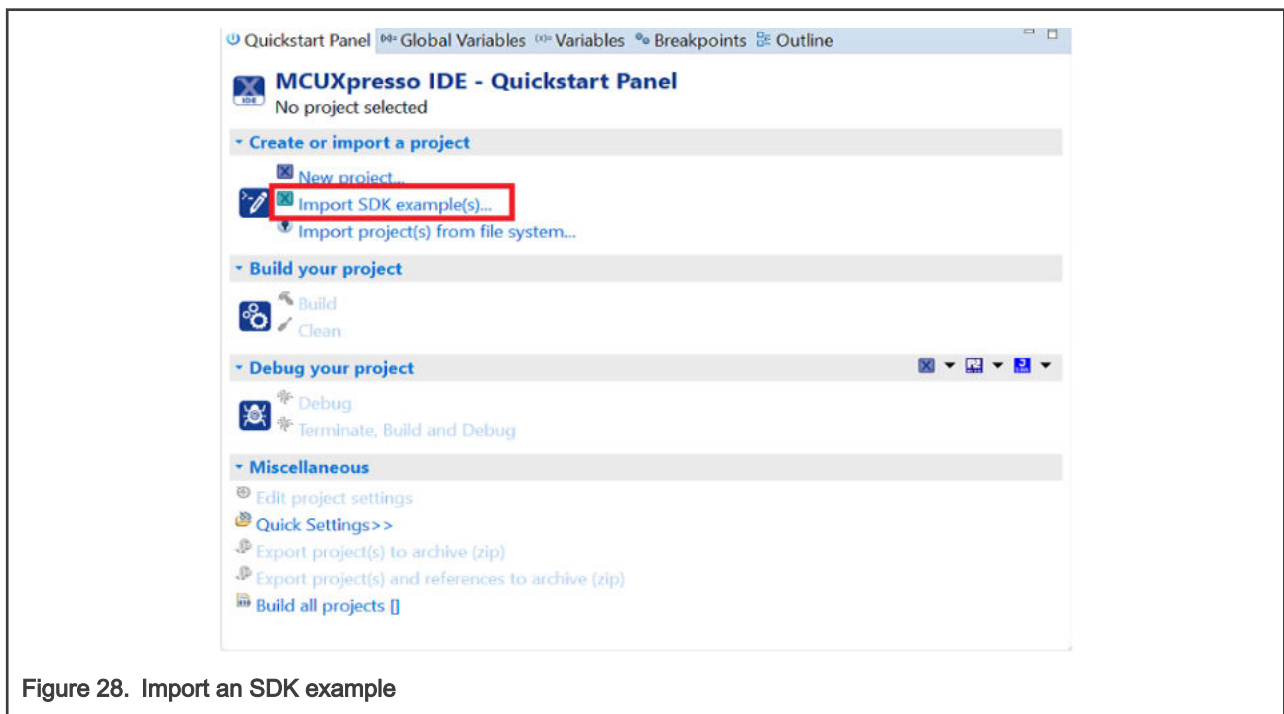

Figure 28. Import an SDK example
2. On the **Quickstart Panel**, click **Import SDK example(s)...**, as shown in Figure 28.